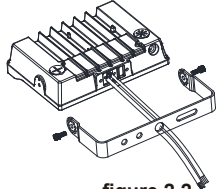

figure 2.2
Step 2: Tighten the brackets and screws. (figure 2.2)